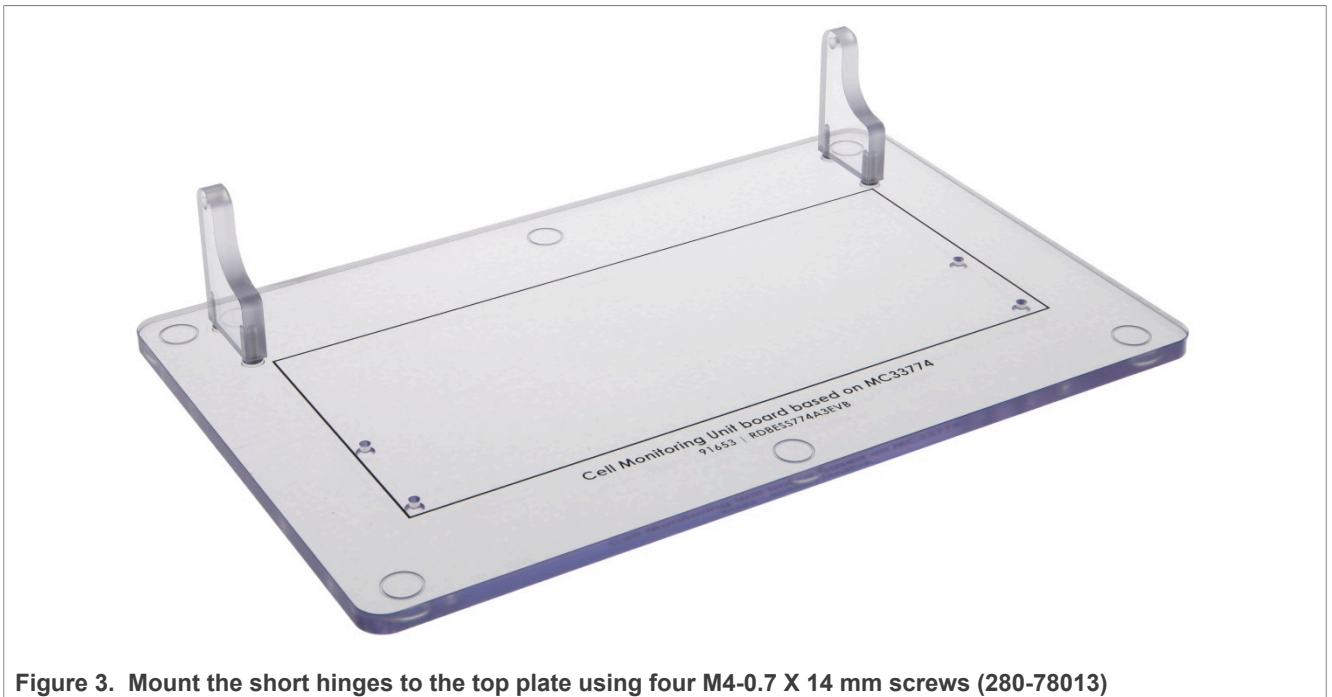

Figure 3. Mount the short hinges to the top plate using four M4-0.7 X 14 mm screws (280-78013)
- 3. Mount both 50 mm side parts (800-76229) using two using two M4-0.7 X 14 mm screws (280-78013) according to Figure 3 and Figure 4.